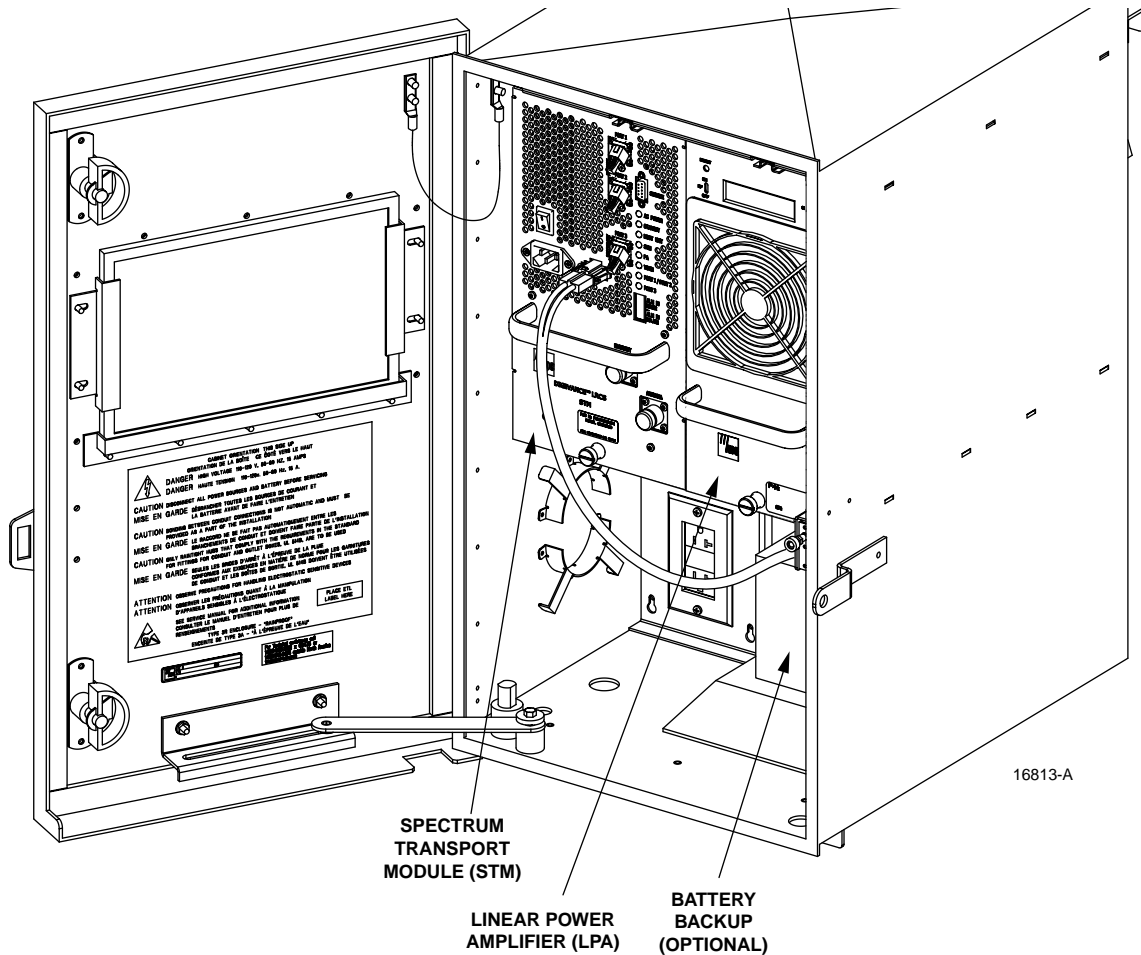

Figure 4. Installing RU Components
2. Gently slide the STM into the cabinet at the location shown in Figure 4. If resistance is encountered, remove the STM and check the alignment of the mating connector on the backplane.
2. Gently slide the LPA into the cabinet at the location shown in Figure 4. If resistance is encountered, remove the LPA and check the alignment of the mating connector on the backplane.
1. Slide the battery pack into position on the heated tray within the cabinet as shown in Figure 4.
1. Slide the WDM into position underneath the cabinet mounting shelf as shown in Figure 4.